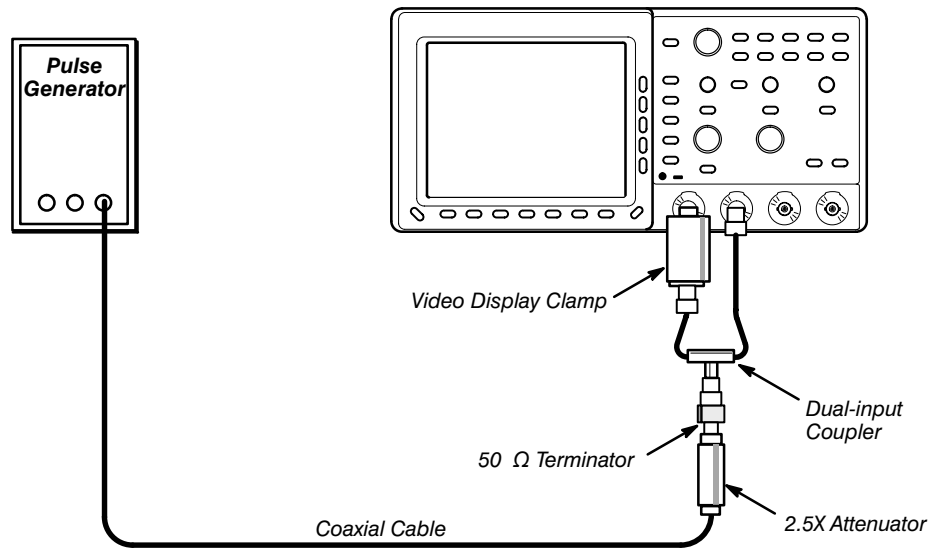

Figure 9: Gain Error Test Setup
2. Connect the output of the pulse generator to the test oscilloscope as shown in Figure 9.